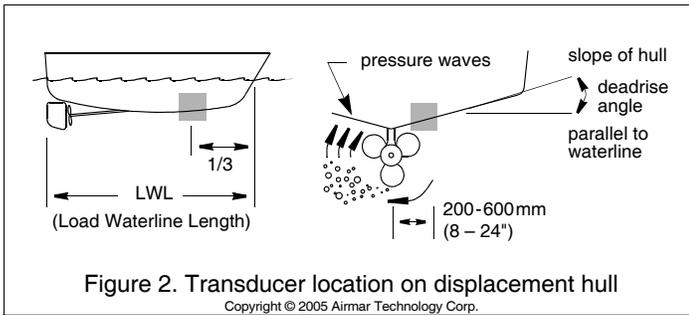

Figure 2. Transducer location on displacement hull
- **Displacement hull powerboat**—Locate about 1/3 of the way along the LWL and 200–600mm (8–24") off the centerline (Figure 2). The side of the hull where the propeller blades are moving downward is preferred.
1. Measure the deadrise angle of the hull at the stuffing tube using an angle finder (Figure 2).